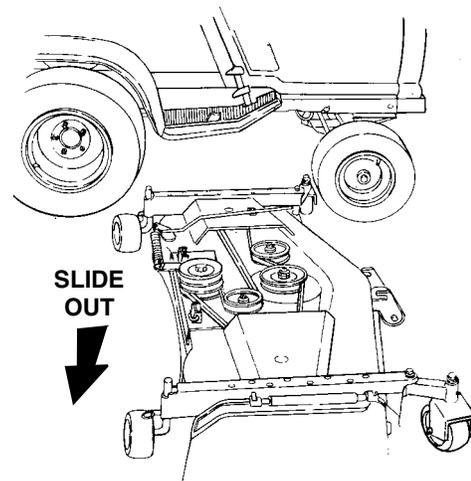

Figure 55
15. With the tractor implement lift handle raised to its highest setting, slide the deck to the right and out from under the tractor (Refer to Figure 55).